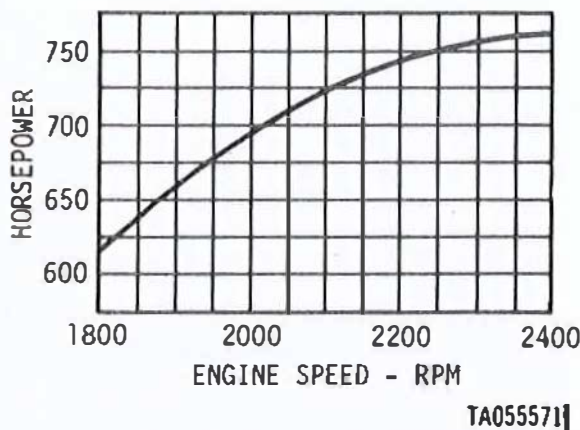

Figure 3-40. Mean performance curve.
(4) Perform test in accordance with the schedule in table 3-28.
(5) Set manifold pressure manometers to current wet barometer reading and entrance air inclinometer to dry barometer reading, as applicable.
(6) Check cylinders for firing. Enter time and RPM at start of each period. Complete readings as soon as engine temperatures have stabilized. Plot oil consumption every ten minutes at 2400 RPM—full load, during run No. 8 (table 3-28). Determine that the governor is not limiting the fuel flow.
(7) Exhaust gas temperatures, measured at individual ports, must not exceed 1250 degrees F. Temperature variation between cylinders must not exceed 150 degrees F.
(8) At completion of test schedule, check acceleration, idle speed, and idle oil pressure. Acceleration should be checked with a moderate steady throttle movement.
(9) If power is outside limits, check for cause and make correction. Gross corrected hp. shall be maintained between 735 and 780 at 2400 rpm, full rack and full load (fig. 3-40).
(10) Governor shall be adjusted to limit the engine no load speed as follows: